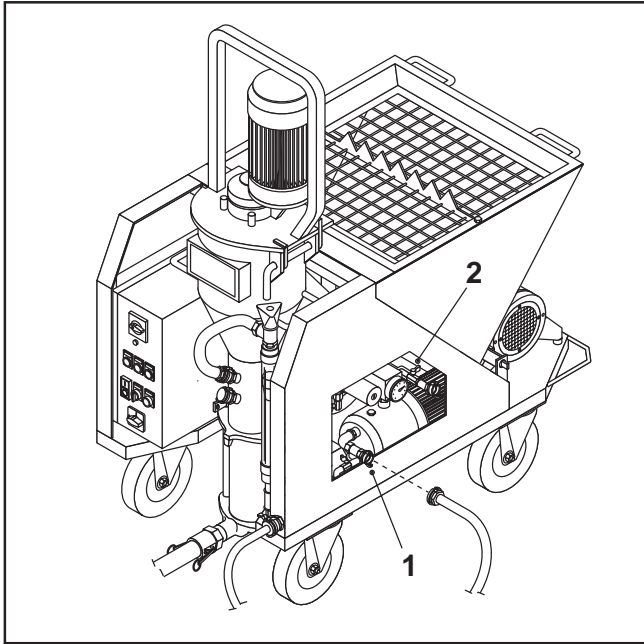

FIG.11
- Connect the water supply pipe to the water pump quick-release coupling (FIG.11-REF.1).
To check that the pump is engaged, when the cock is opened (FIG.11-REF.2) water should escape.
The water entering the water pump must be clear and free from impurities. If the water network does not guarantee the necessary flow of water, obtain a container with suitable capacity (200 litres) with compensation function. The container must have a cock with float, must be positioned high with respect to the parking surface of the machine and water must be withdrawn at least 50 cm above the connection (FIG.11-REF.1).